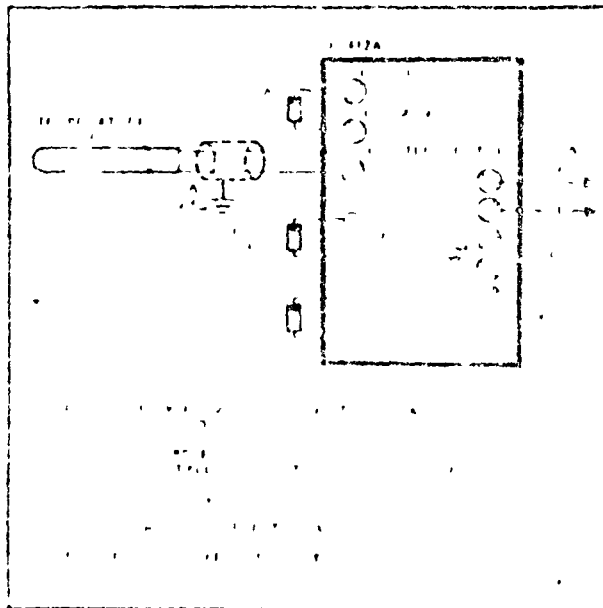
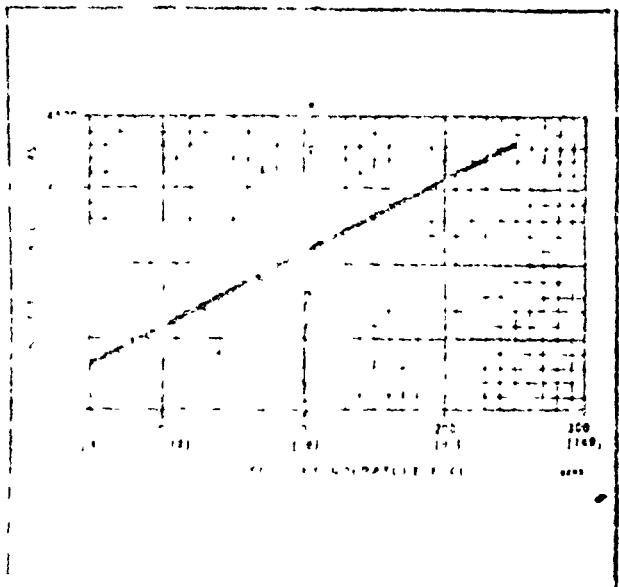

FIG. 10 SINGLE FUNCTION SET POINT CONTROL. CONTROL MAKES ON TEMPERATURE RISE TO SET POINT PLUS DIFFERENTIAL. CONTROL MAKES ON TEMPERATURE FALL TO SET POINT.
FIG. 12 R7412A SINGLE FUNCTION TEMPERATURE SET POINT. CHOOSE APPROPRIATE RESISTOR VALUE AT DESIRED SET POINT.
Use the following instructions to check the function of differential temperature controller. See the function temperature controller connections in Figs 10 and 11.
3. To adjust the temperature set point, select a resistor value according to the graph in Fig 12. Connect the selected output resistor to the low temperature and common terminals for make on temperature rise control (Fig 10), or to high and common terminals for make on temperature fall.